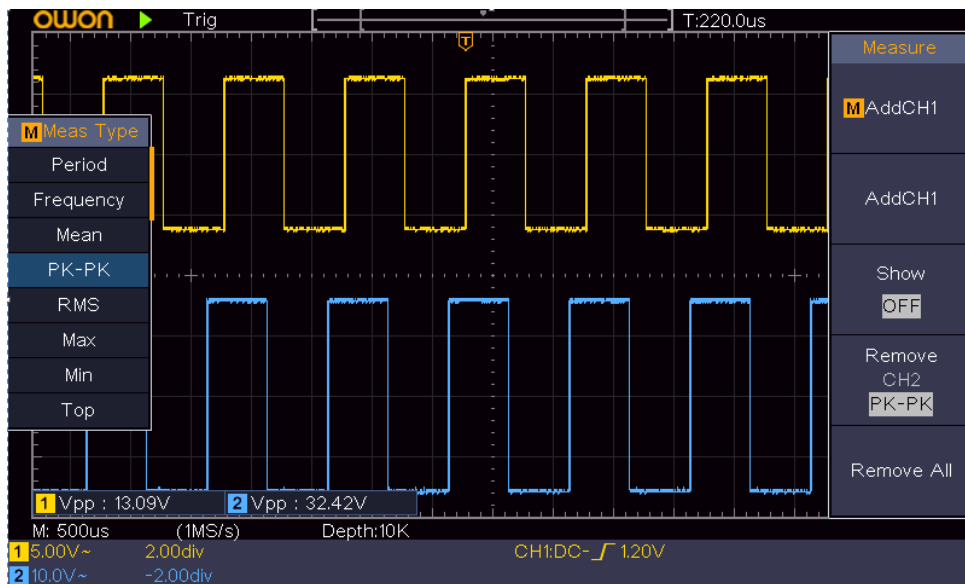

Figure 6-2 Waveform of Gain Measurement
- (1) Push the **Autoset** button and the oscilloscope will automatically adjust the waveforms of the two channels into the proper display state.
- (2) Push the **Measure** button to show the right menu.
- (3) Select **AddCH1** in the right menu.
- (4) In the left Type menu, turn the **M** knob to select **PK-PK**.
- (5) In the right menu, select **AddCH1**. The peak-to-peak type of CH1 is added.
- (6) In the right menu, select **AddCH2**. The peak-to-peak type of CH2 is added.
- (7) Read the peak-to-peak voltages of Channel 1 and Channel 2 from the bottom left of the screen (see Figure 6-2).
- (8) Calculate the amplifier gain with the following formulas.